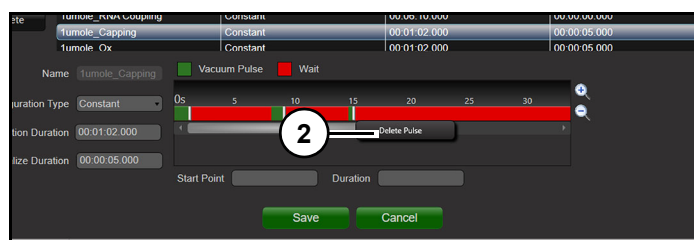

Figure 28
2. Select a pulse option (2) (Figure 28) from menu.